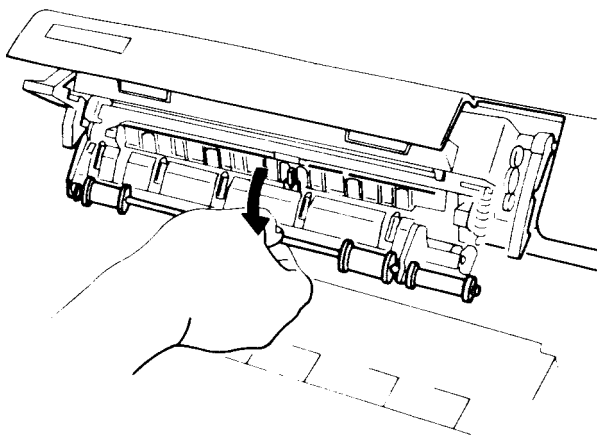

Figure 2-9 Opening the heat roller housing
- b. Pull the chrome exit roller shaft towards the front of the printer (see Figure 2-9) until it flips down to expose the slot for the cleaning pad.